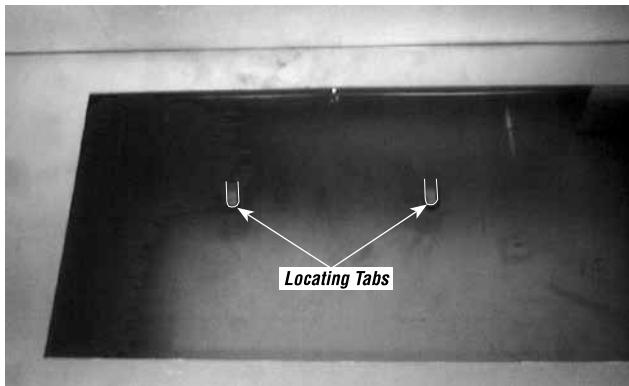
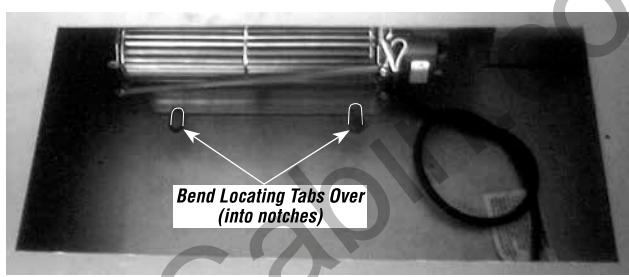

Figure 20
Figure 21
Step 4. Locate the tabs shown in **Figure 20**. Position the blower assembly so that the tabs (located on the cabinet base) are seated in the notches of the blower bracket. Bend the tabs over to secure the blower assembly (see **Figure 21**).